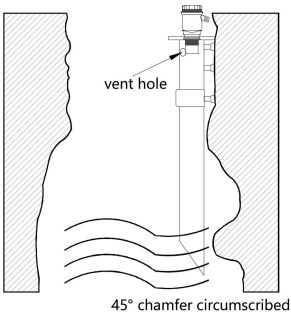

Figure2
- 4) If the wall of the pool or tank is uneven, there are other obstacles, the water surface fluctuates violently, and there are foams or other impurities on the water surface, the meter needs to follow the guide pipe, or connect the pipe to the bottom of the pool or tank, with a pipe diameter  $\geq 110\text{mm}$ , Leave a gap at the bottom of the pipe so that the liquid level in the extension pipe is equal to the liquid level in the pool or tank. On the extension pipe, near the probe, open a few small holes so that the air in the pipe can communicate with the outside of the pipe! (Figure 2)